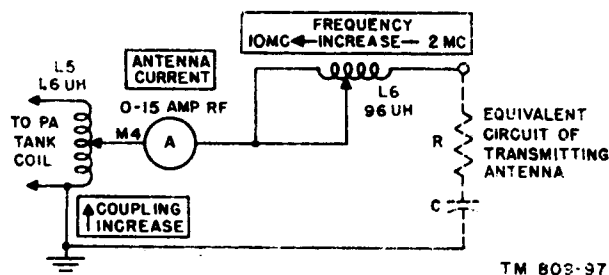

Figure 34. Antenna tuning unit with range switch in 2-10 M-C position.
a. Figure 34 is a functional schematic diagram of the tuning unit with range switch SW9 (SW9.1 and SW9.2) set to 2-10 M-C and a whip antenna connected to the unit. Since the antenna is electrically much shorter than a quarter wave length, it presents a highly capacitive load to